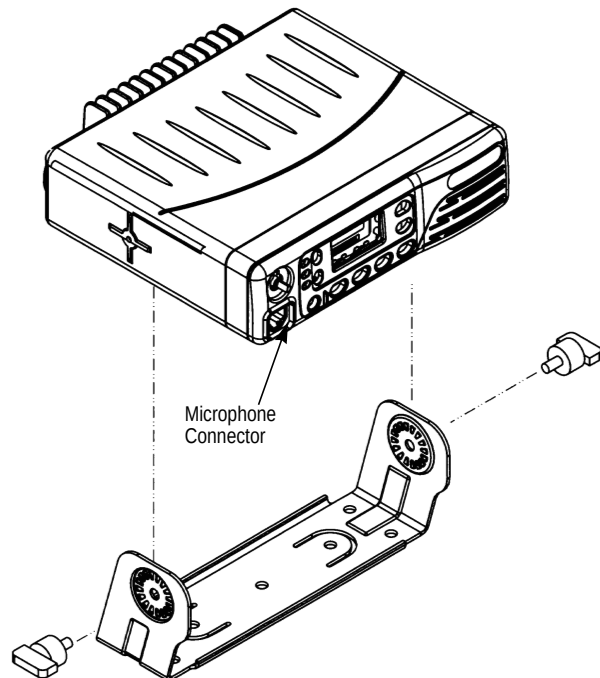

Figure 2-6. 12 W & 15 W Radio
9. Plug the microphone cord into the control head connector. Refer to Figure 2-6. Your microphone has a telephone type connector at the end of its cord. Connect and disconnect your radio microphone cord in the same manner you connect and disconnect your telephone handset cord.